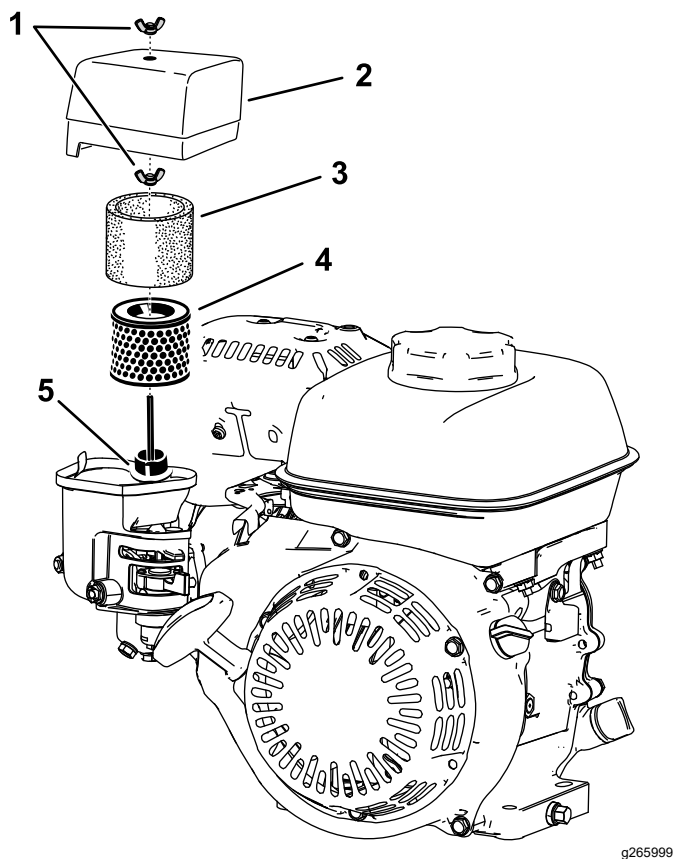

Figure 19
- Remove the wingnut securing the air-cleaner cover (Figure 19).